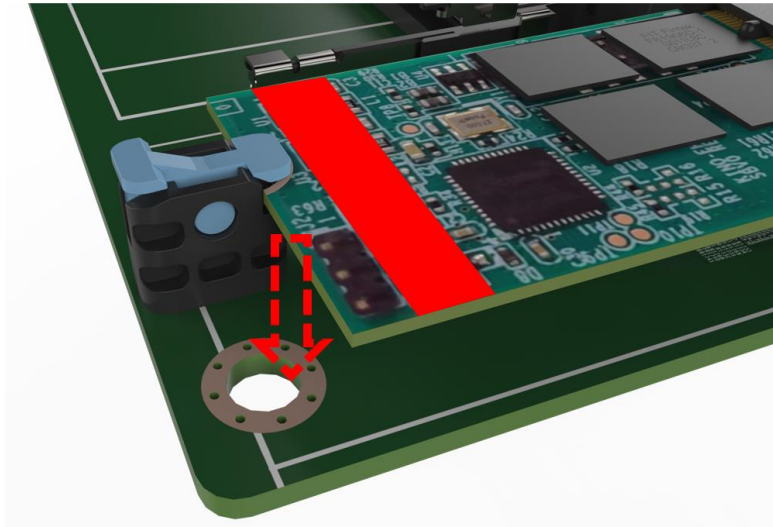

Figure 3-11: Securing the M.2 Card
Step 5: Secure the M.2 card. Press down the M.2 card to fix it (Figure 3-11).